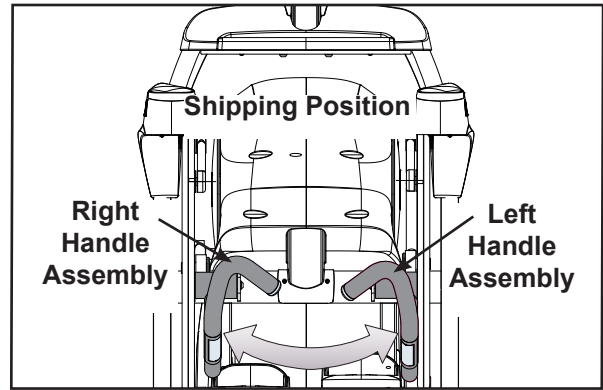
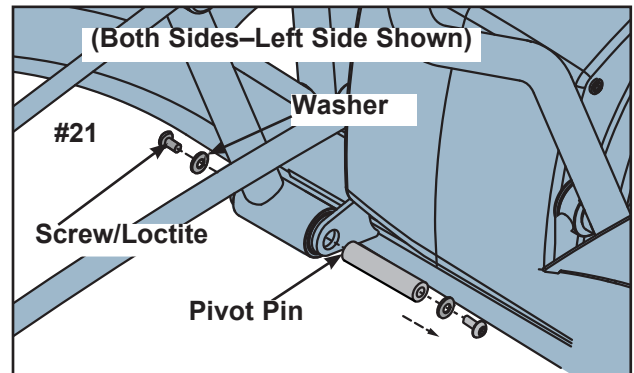

Figure 9 (750AT)
Figure 10 (750AT)
NOTE: The left and right handle assemblies are shipped in the reverse positions. The handle assemblies must be removed and swapped for proper setup and assembly. See Figure 9.
- A. Locate the screws and washers that secure each handle assembly to the main frame. See Figure 10.
- B. Using a 7/32" Allen wrench (#15), remove the screws and washers from the right handle assembly. See Figure 10. **NOTE:** The right handle assembly is mounted on the left side. See Figure 9.
- D. Using a 7/32" Allen wrench (#15), remove the screws and washers from the left handle assembly. See Figure 10. **NOTE:** The left handle assembly is mounted on the left side. See Figure 9.
- A. Position the left handle assembly in the correct position on the left side where the right handle assembly was removed in step 14C. See Figure 10.
- C. Place left handle assembly in position and slide pivot pin back in place. See Figure 10.
- D. Secure handle assembly with the screws and washers removed in step 14B. See Figure 10.
- A. Position the right handle assembly in the correct position on the right side where the left handle assembly was removed in step 14E. See Figures 10 and 11.
- C. Place right handle assembly in position and slide pivot pin back in place. See Figure 10.